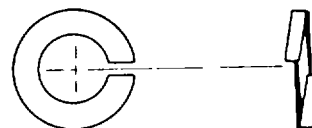

Figure 2-30. Split Lockwasher
b. Lockwashers. Use lockwashers, MS35338 (split type) or MS35335, MS35336, MS35790 (internal, external, or countersunk teeth type), as shown in figures 2-30 and 2-31, with plain nuts when self-locking or castellated-type nuts are not applicable. Lockwashers may be used to prevent loosening of threaded fasteners in airframe construction under the following conditions: